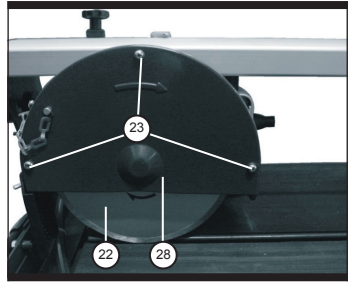
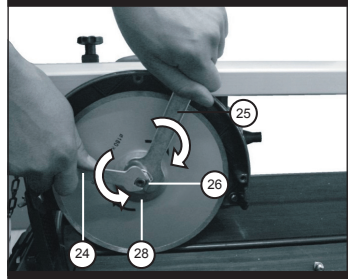

Fig 18
Fig 19
Replacement of the blade (See fig18 & 19)
Warning: (See Fig 18) Loosen the three screws (23) and remove the blade guard (28). (See Fig 19) To remove the blade you must fix the wrench (25) on the blade arbour flats and fix a second wrench (24) onto the nut (26). Then rotate both wrenches in opposite directions because nut (26) is a left hand thread. Remove the nut 26, flange (28) and blade.